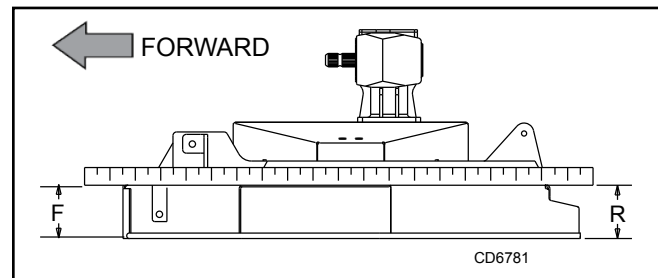

Figure 5. Cutting Height Adjustment
- Adjust front of mower level with or slightly lower than the rear to obtain best mowing results. See Figure 5.
Remember, measurement at location R (Figure 5) should not be less than location F and should not be over 1/2" greater than location F.